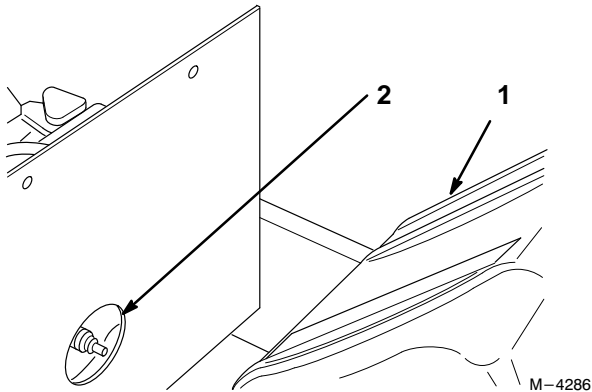

Figure 16
3. To gain access to the rear spark plug the gas tank must be removed (Fig. 16).
3. Push the wire(s) onto the spark plug(s) (Fig. 16).